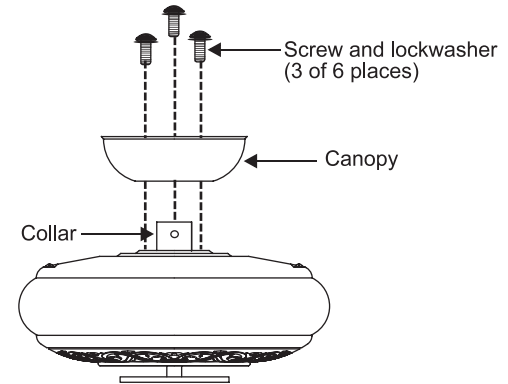

Figure 8-2
6. Remove three of the six screws and lock washers (every other one) from the collar of top motor (Figure. 8-2)
7. Place the ceiling canopy over the collar at the top of the motor. Align the mounting holes with the holes in the motor and fasten using the screws and lock washers provided (Fig. 8-2).
8. Tighten the mounting screws securely. (Fig. 8-2)